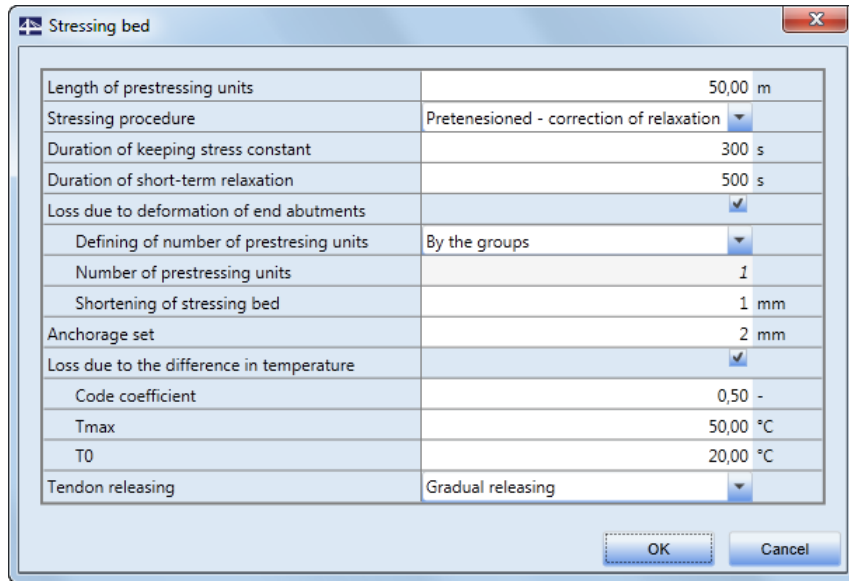

Figure 3.20: Stressing bed
- Stressing bed** – define parameters of the stressing bed for pre-tensioned design member (see Figure 3.20)